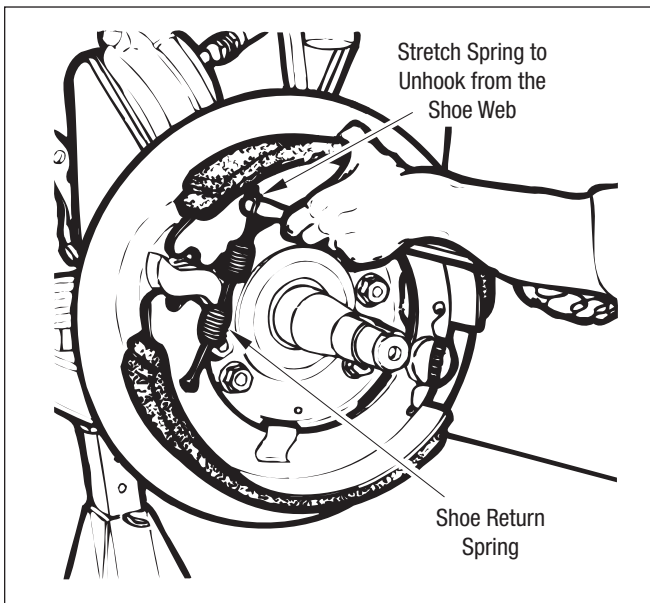

Figure 17 – Shoe Return Spring Removal
6. Rotate the shoe downward and turn it to allow disengagement of the shoe retaining spring from the lower shoe web. *Refer to Figure 17.*